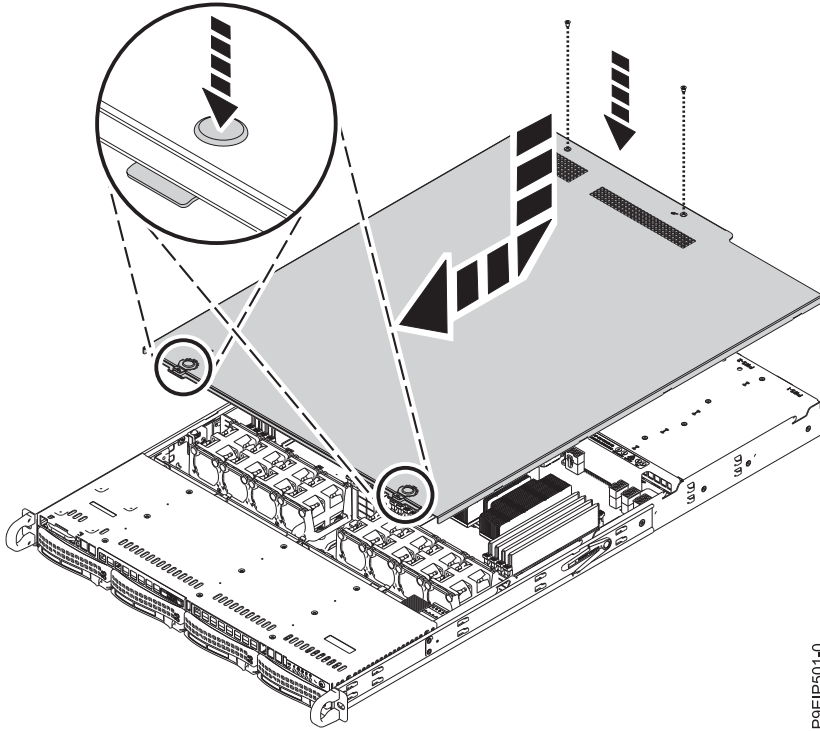

Figure 90. Replacing and securing the cover
2. Slide the cover forwards until it latches into place as shown in Figure 90 on page 90.